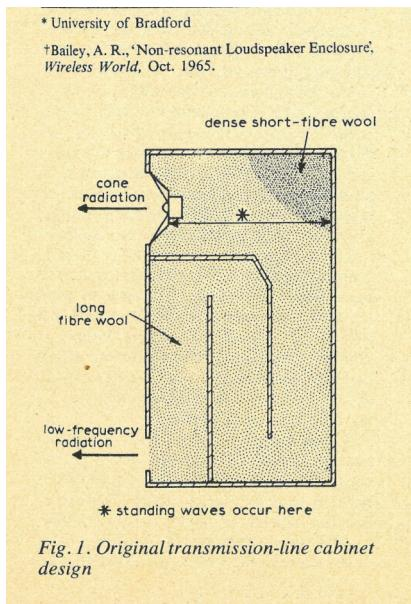

Fig. 1. Original transmission-line cabinet design
The birth of the Transmission Line speaker design came about in 1965 with the publication of A R Bailey's article in *Wireless World*, "A Non-resonant Loudspeaker Enclosure Design" (1) (Fig 1), detailing a working Transmission Line. Radford Audio took up this innovative design and briefly manufactured the first commercial Transmission Line loudspeaker. Shortly thereafter John Wright of IMF Electronics designed a range of Transmission Line designs and made them popular through his refinement and development of Bailey's theory. Although acknowledged as the father of the Transmission Line, Bailey's work drew on the work on labyrinth design, dating back as early as the 1930's. His design, however, differed significantly in the way in which he filled the cabinet with absorbent materials. Bailey hit upon the idea of absorbing all the energy generated by the bass unit inside the cabinet, providing an inert platform for the drive unit to work from; unchecked, this energy produces spurious resonances in the cabinet and its structure, adding distortion to the original signal.